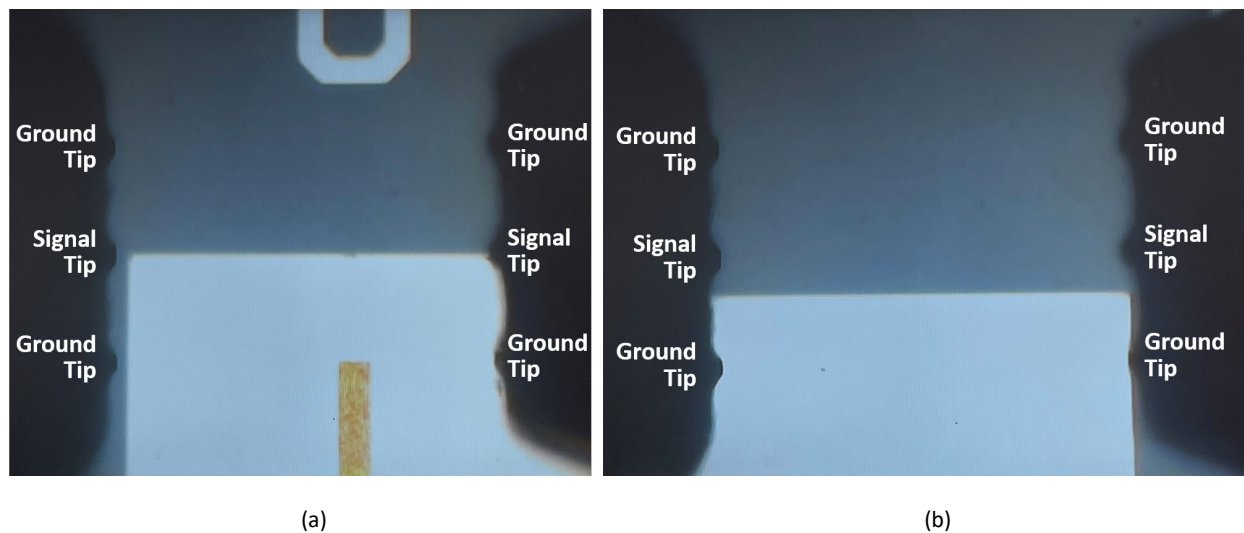

Fig. 5.2. Probes (a) centered on and (b) offset from the alignment edge w.r.t. the y-axis.
- 5.8 Focus the microscope on the probe tips so that you can clearly see them (Fig. 5.2).
- 5.9 Move the chuck so that the alignment edge is centered under the probes with respect to the y-axis [Fig. 5.2(a)].
- 5.11 If the probes are no longer centered on the alignment edge [Fig. 5.2(b)], rotate the chuck slightly by turning its ϕ -micrometer (**not the θ -micrometer on the probe positioner!**), then repeat Steps 5.9 and 5.10. Keep in mind that the chuck can only be rotated by $\pm 7^\circ$ maximum.